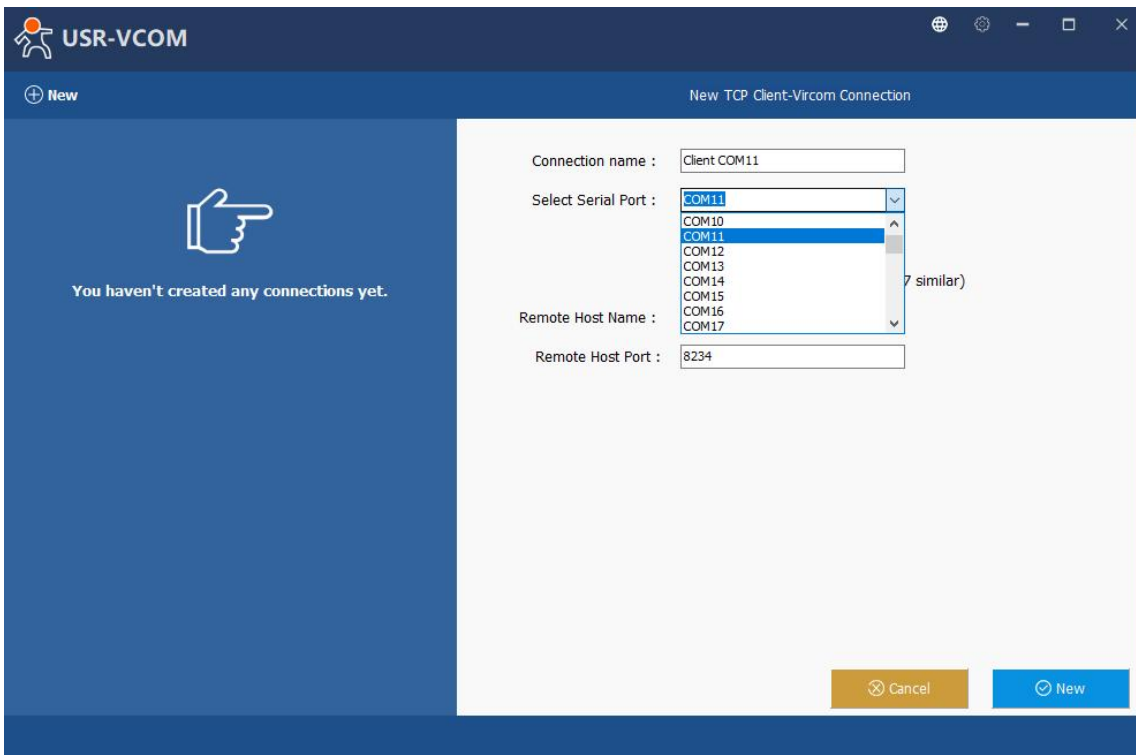

Fig. 59 Select one COM port
2. Select one COM port as the Virtual COM port before proceeding as shown in Fig.59. Note that if a COM port number is used by other application or your operating system, you can not select it.